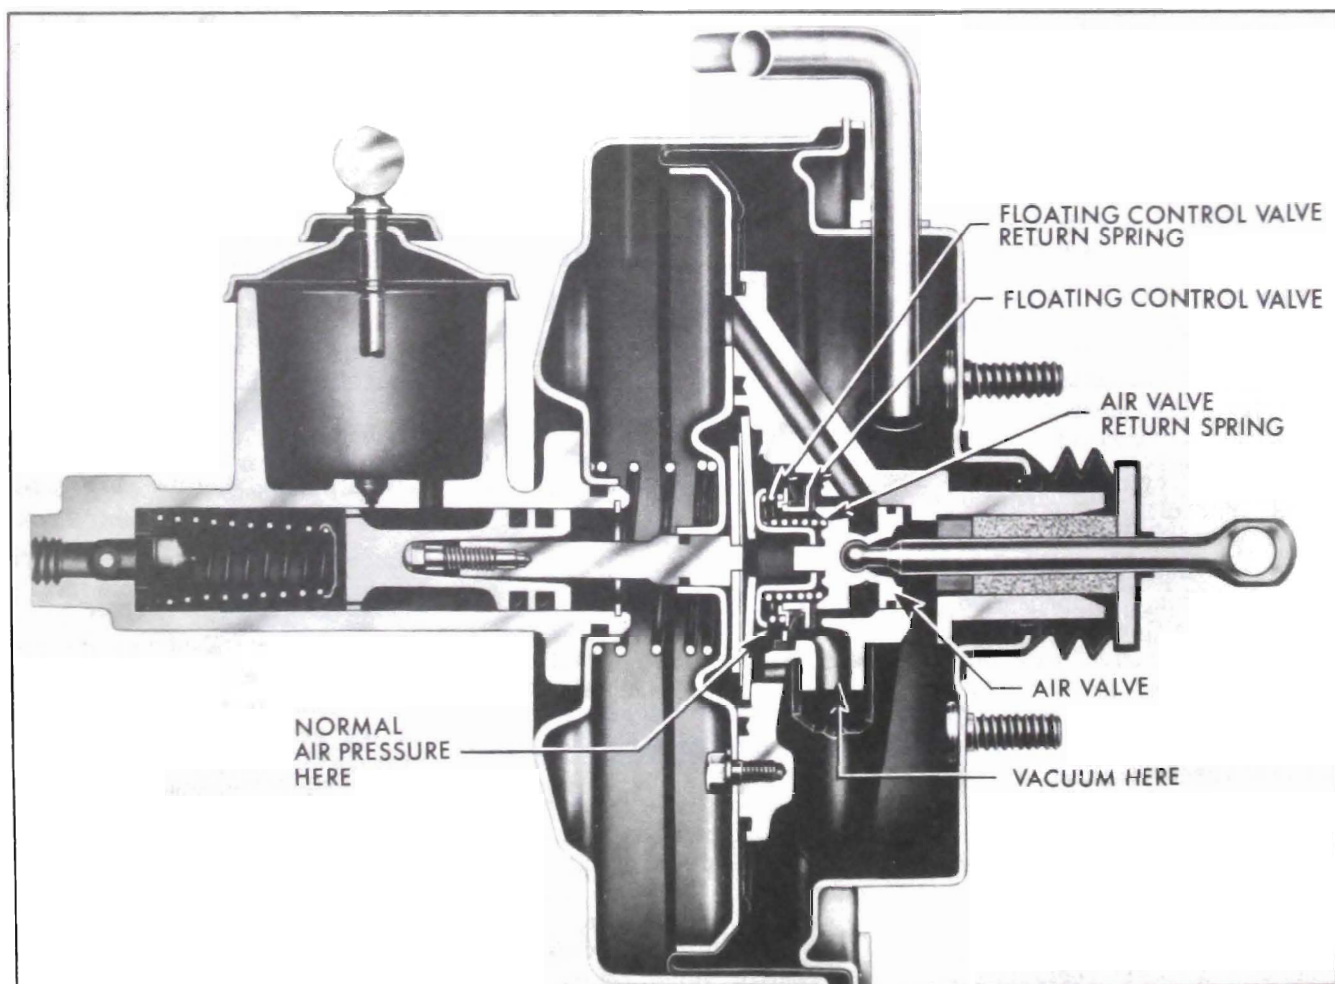

Figure 9-18—Power Brake Unit—Applying
(2) Applying. See Figure 9-18. As the brake pedal is depressed, the push rod moves the air valve forward until its annular seat contacts the floating control valve, at which point atmospheric pressure is sealed off from the vacuum chamber. Further movement of the air valve pushes the floating control valve away from its annular seat in the power piston, thus connecting the vacuum chamber to the vacuum source. As air is exhausted out of the
(3) Reaction Pressure. As soon as pressure starts to build up in the hydraulic system, the pressure on the end of the master cylinder piston causes the master cylinder piston push rod reaction plate to move away from its stop and press against the reaction discs and the reaction levers. The levers in turn swing around their pivots in the power piston and push the air valve reaction extension back against the air valve. See Figure 9-18.